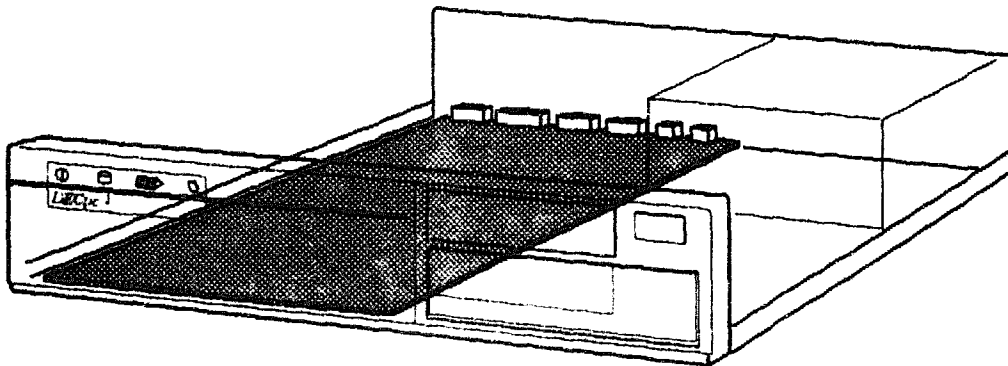

Figure 3-48 - Placing the Main Board into the Computer's Chassis
2. Carefully place the Main Board into the computer's chassis, with the interface connectors facing the rear of the chassis (Figure 3-48). You do NOT have to remove the strut. However, you can remove the Front Cover if you need more room. See *Installing and Removing the Front Cover* given earlier in this chapter.